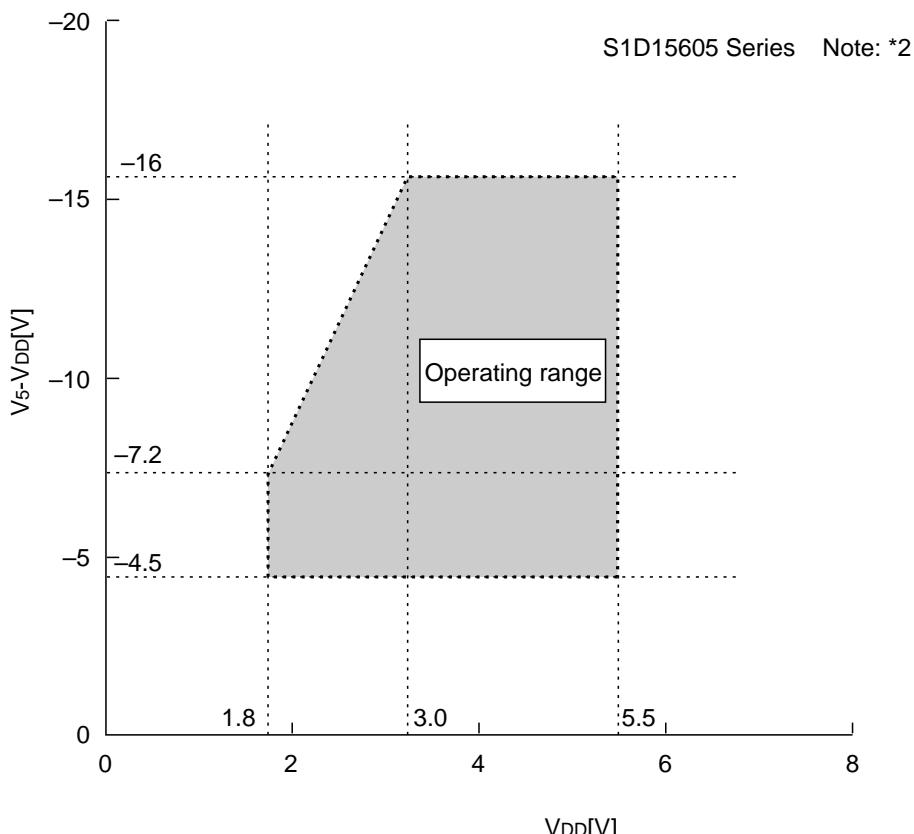

Figure 36
- \*2 The operating voltage range for the VDD system and the V5 system is as shown in Figure 36. This applies when the external power supply is being used.
- \*3 The A0, D0 to D5, D6 (SCL), D7 (SI), RD (E), WR (R/W), CS1, CS2, CLS, CL, FR, M/S, C86, P/S, DOF, RES, IRS, and HPM terminals.
- \*5 The A0, RD (E), WR (R/W), CS1, CS2, CLS, M/S, C86, P/S, RES, IRS, and HPM terminals.
- \*6 Applies when the D0 to D5, D6 (SCL), D7 (SI), CL, FR, and DOF terminals are in a high impedance state.
- \*7 These are the resistance values for when a 0.1 V voltage is applied between the output terminal SEGn or COMn and the various power supply terminals (V1, V2, V3, and V4). These are specified for the operating voltage (3) range.